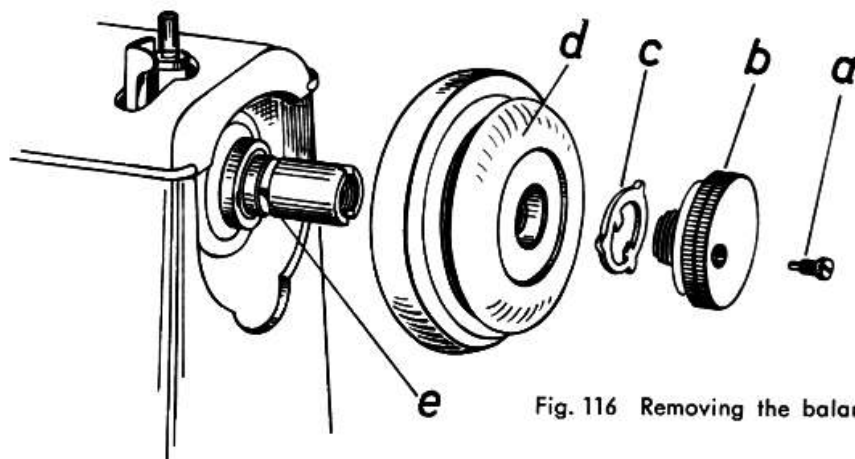

Fig. 116 Removing the balance wheel
6. To strip the foot-drive balance wheel, take out stop screw a (Fig. 116), unscrew stop motion knob b by turning it counter-clockwise, remove friction washer c, and pull balance wheel d off the arm shaft bushing.